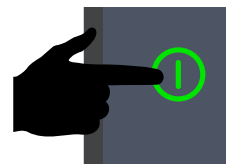

Figure 99. Start Button
3. Press the **Start button** (Figure 99) on the digital controller to start the engine.